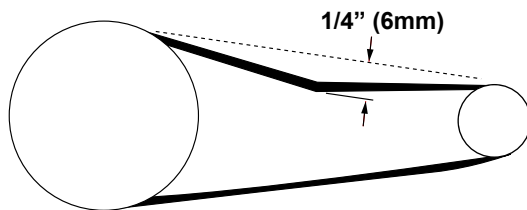

Figure 8: Correct V-belt deflection
Periodically check the motor V-belt for wear, tension, and alignment. The belt should be snug, neither too tight nor too loose. It should deflect about 1/4in (6mm) at the center point between the pulleys (Fig. 8).
3. Verify that the pulleys are aligned and adjust if necessary. Move the motor until the correct belt tension is obtained (Fig. 8).